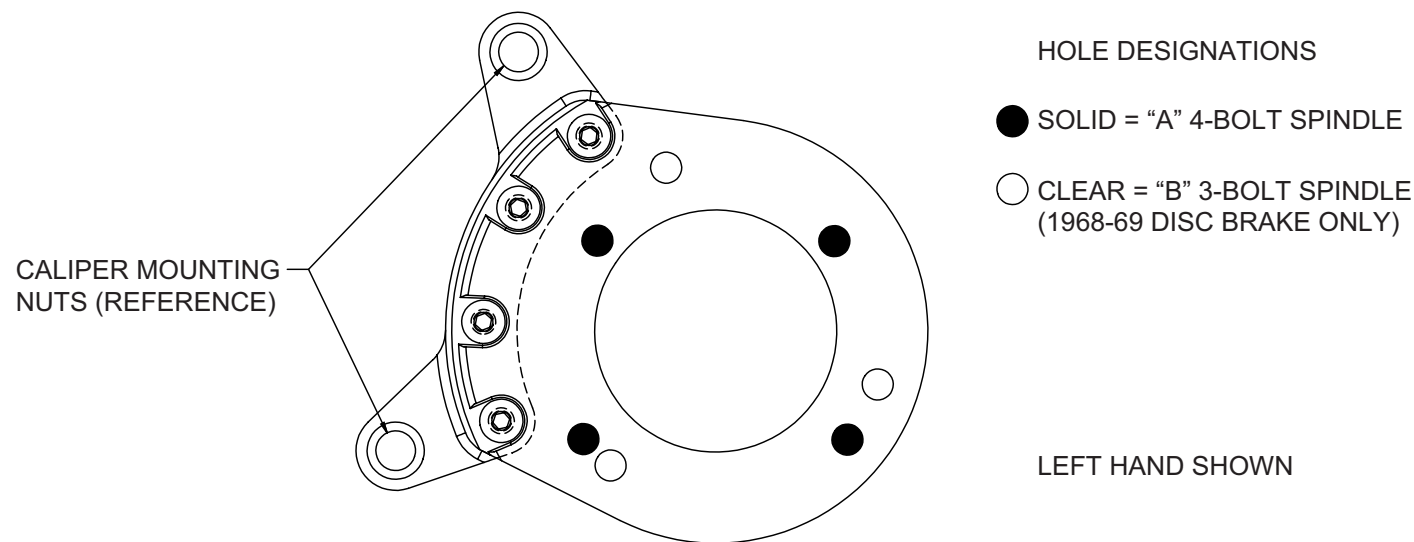
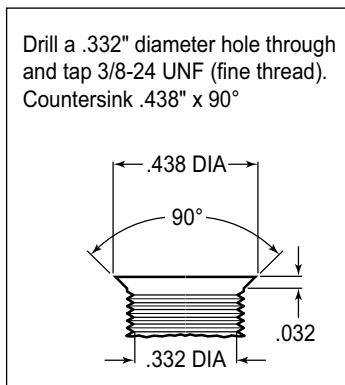
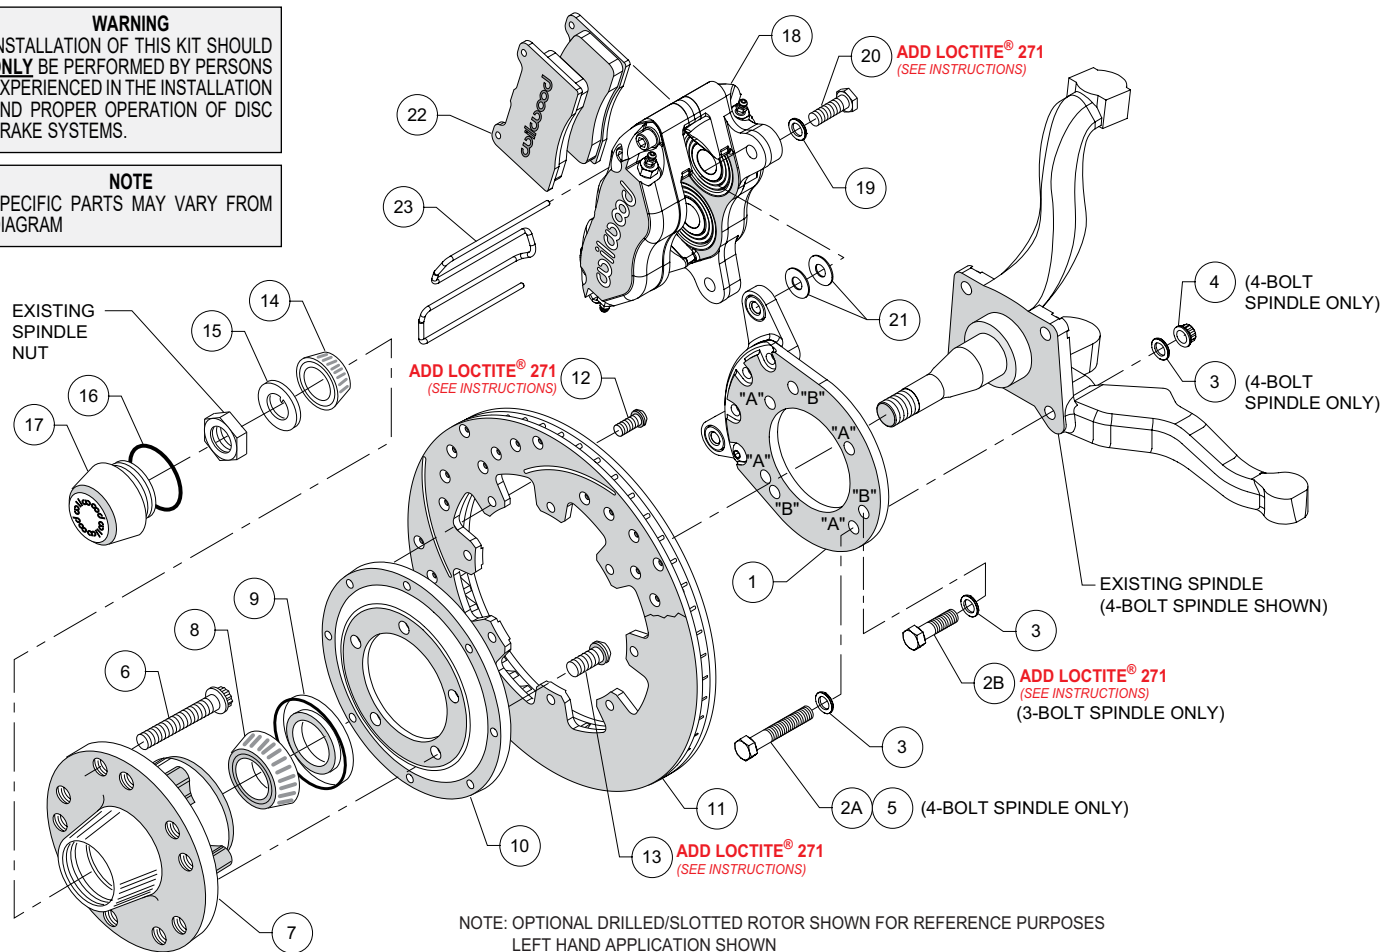
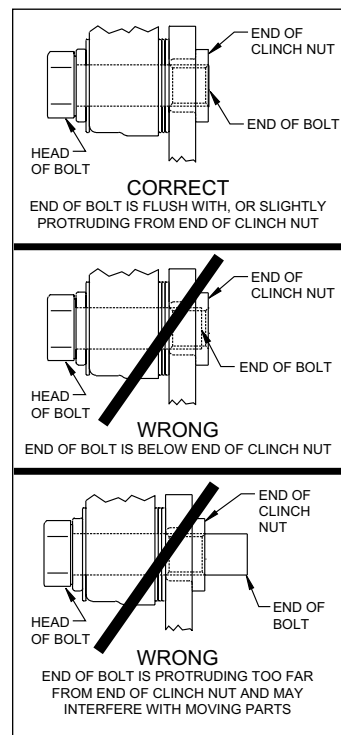

Figure 1. Wilwood Caliper Mounting Bracket
Figure 2. Drill and Tap Detail
Figure 4. Typical Installation Configuration
Figure 5. Clinch Nut Engagement Diagram
This kit has been designed for use with both three and four bolt spindle configurations. The only difference is in how the Wilwood caliper mounting bracket is installed. The same bracket is used for both configurations; only the 1968-69 disc brake spindle utilizes three mounting holes while all other spindles use the four mounting holes (see Figure 1). For your convenience we have supplied bolt kits for both applications (see parts list and Figure 4 as necessary). Use the bolt kit that is applicable to your vehicle and disregard the other one.
NOTE: This modification should be performed by a qualified machinist and completed before assembly of the Wilwood disc brake kit begins. Using the caliper mounting bracket as a template (refer to Figure 1 as necessary), locate and verify the three original holes on the spindle that need to be modified. Drill a .332" diameter hole through all three holes, then tap 3/8-24 UNF (fine thread). Countersink the holes to .438" diameter x 90°, as shown in Figure 2.
NOTE: Numbers in parenthesis refer to the parts list on the preceding page and Figure 4.
CAUTION: All mounting bolts must fully engage clinch nuts. Be sure to check that all bolts are either flush or protruding through flanged side of clinch nut after shimming, Figure 5.
•**NOTE:** This kit uses the same mounting bracket (1) for both the three and four bolt brake spindles. The 4-bolt version, Photo 1, uses four mounting bolts (designated "A"), while the 3-bolt version, Photo 2, uses three (designated "B"). Refer to Figures 1 and 4 for the basic installation position of the bracket and the "A" and "B" reference designations (not physically marked on the brackets).
For 4-Bolt Spindle: Align bracket, using the four "A" holes, to the face of the spindle and attach using bolts (2A and 5), washers (3), and lock nuts (4), as shown in Figure 4. Ensure that the flanged heads of the clinch nuts in the bracket are facing outboard, Photo 1. Torque nuts to 30 ft-lb.
For 3-Bolt Spindle (1968-69 Disc Brake): Align bracket, using the three "B" holes, to the face of the spindle and attach using bolts (2B) and washers (3), as shown in Figure 4. Finger tighten. Ensure that the flanged heads of the clinch nuts in the bracket are facing outboard, photo 2. Remove bolts one at a time, apply red *Loctite*® 271 to threads, and torque to 40 ft-lb.
- Install the grease seal (9) by pressing into the backside of the hub (7), flush with the end of the hub, Photo 4.
- Orient the rotor (11) and the rotor adapter (10) as shown in Figure 4 and Photo 5. Attach the rotor to the adapter using bolts (12). Using an alternating sequence, apply red *Loctite*® 271 to the threads, and torque to 25 ft-lb.
- Mount the adapter/rotor assembly (10/11) to the hub (7) using bolts (13), as shown in Figure 4 and Photo 6. Using an alternating sequence, apply red *Loctite*® 271 to the threads, and torque to 45 ft-lb.
- NOTE:** Please reference the caution statement at the beginning of the assembly instructions. Mount the caliper (18) onto the caliper mounting bracket (1) using bolts (20) and washers (19), as shown in Figure 4. Initially place two .035" thick shims (21) on each bolt between the caliper and the bracket, Photo 9. Temporarily tighten the mounting bolts and view the rotor (11) through the top opening of the caliper. The rotor should be centered in the caliper, Photo 10. If not, adjust by adding or subtracting shims between the bracket and the caliper. Always use the same amount of shims on each of the two mounting bolts. **NOTE:** The end of each bolt must be flush with or slightly protruding from the head of the clinch nut, as shown in Figure 5. If necessary place spare shims between washer (19) and caliper mounting ear to achieve the proper clinch nut engagement. Once the caliper alignment and clinch nut engagement are correct, remove the bolts one at a time, apply red *Loctite*® 271 to bolt threads, and torque to 40 ft-lb.